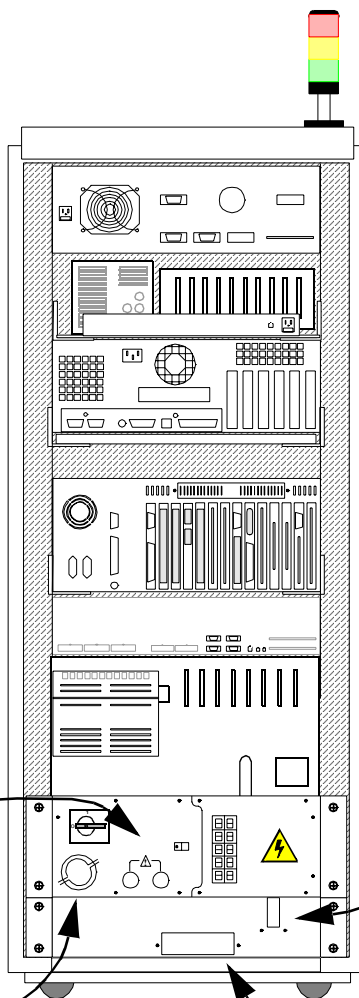
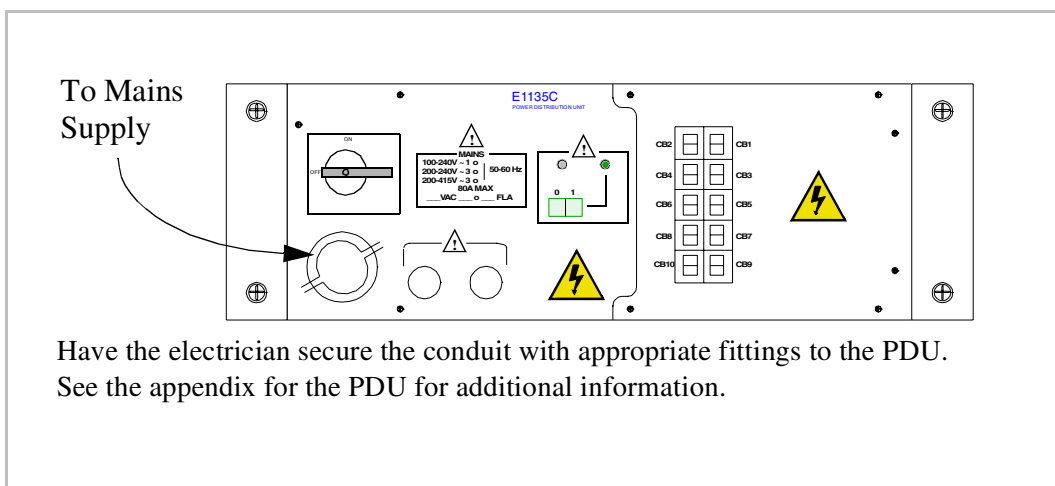

Figure 8 Cable Harness Routing
Figure 11 Power Distribution Unit
18. AC Main Hookup — Work with the customer electrician to provide main power installation to local code. For general service feed location, see Figure 8 on page 17 and Figure 11 on page 23. Normal requirements are: